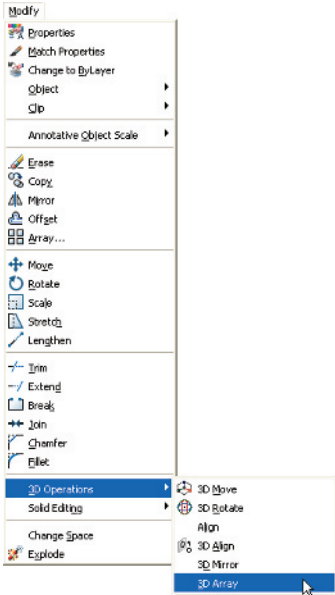

Fig. 15.11 Selecting **3D Array** from the **Modify** drop-down menu
2. Click on **Modify** in the menu bar and in the drop-down menu which appears click on **3D Operation**, followed by another click on **3D Array** in the sub-menu which appears (Fig. 15.11). The command line shows: